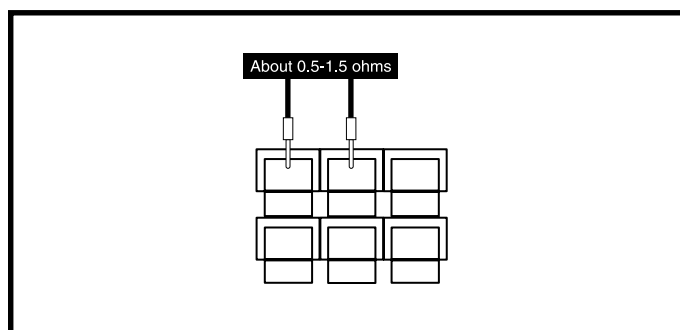

Figure 13. Connector 7a
6. Measure resistance across pin 1 (red) and pin 2 (black) on connector 7a. **See figure 13.**
- *If your multimeter indicates about 0.5-1.5 ohms, then replace the power interface harness (2) and retest the system.*
- *If your multimeter does not indicate about 0.5-1.5 ohms, then replace the left motor (7) and retest the system.*